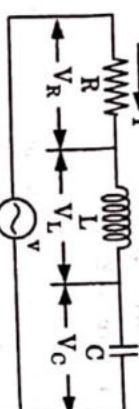

Fig. 2.28.1.
1. Consider an AC circuit containing a resistance  $R$ , inductance  $L$  and a capacitance  $C$  connected in series, as shown in Fig. 2.28.1.